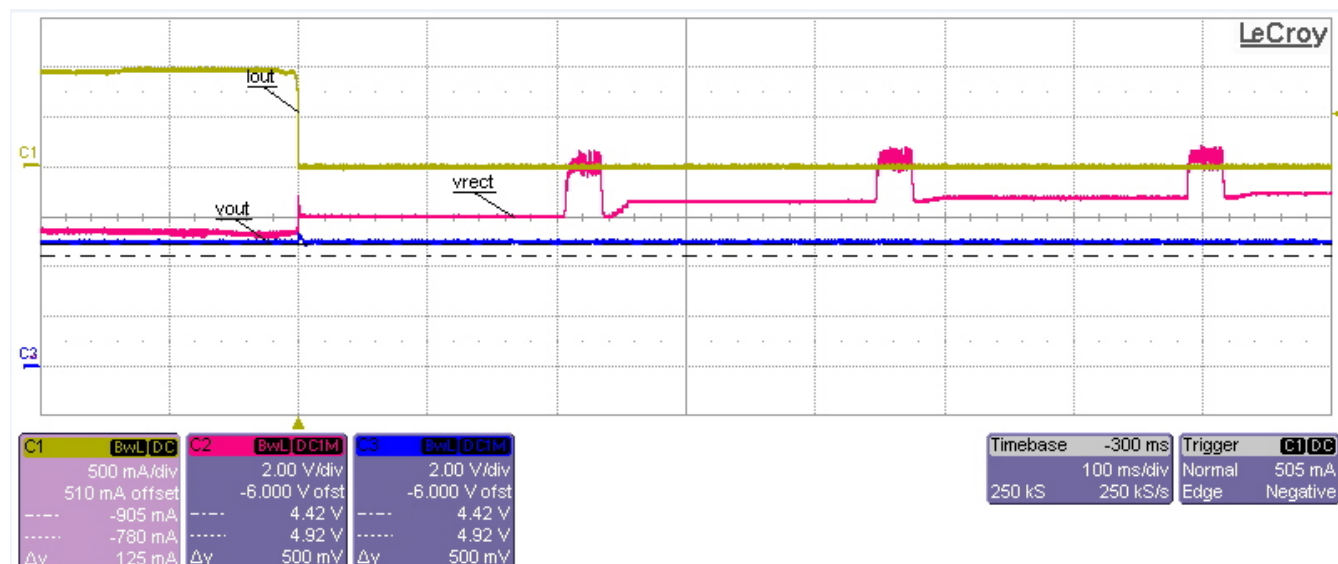

Figure 4. Load Dump, 500 mA to 0 mA
- Monitor load current, rectifier voltage, and output voltage as shown in Figure 4.